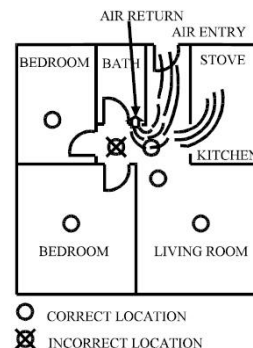

FIGURE 6
3. When air streams passing by kitchens, the way how a detector can sense combustion particles in normal air-flow paths is graphically shown in FIGURE 6, which indicates the correct and incorrect smoke detector locations concerning this problem.